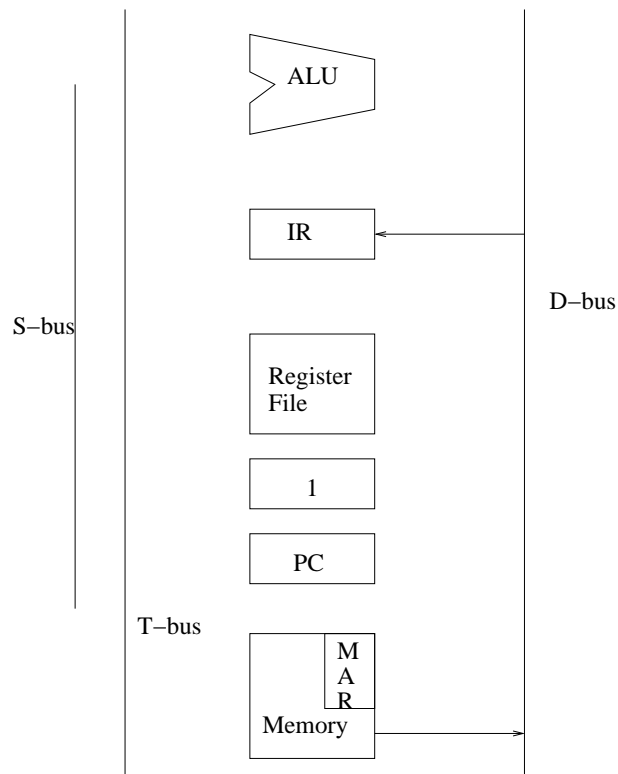

Figure 24.5: MIPS R2000 datapath during Step 1
During Step 1, the appropriate instruction in memory is transferred on to the D-bus and then into the instruction register (IR), as shown in Figure 24.5.